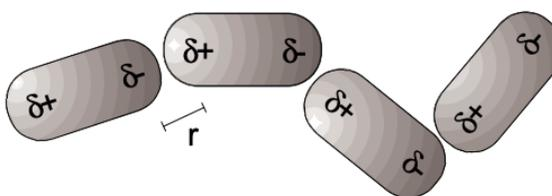

Figure 10
1. **Dipole-Dipole Interaction:** Molecules with permanent dipoles (such as water, alcohol and other organic compounds with functional groups) exert a net attractive force on each other as a result of varying degrees of alignment of oppositely charged portions of the molecules (fig. 10). For two polar molecules with a dipole moment of (μ) separated by a distance of (r), the energy of attraction can be quantified as: